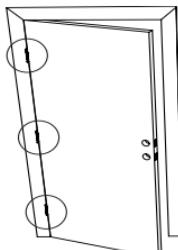

Figure 4a
a. If the hinges are on the left your door is Left Handed (Figure 4a).